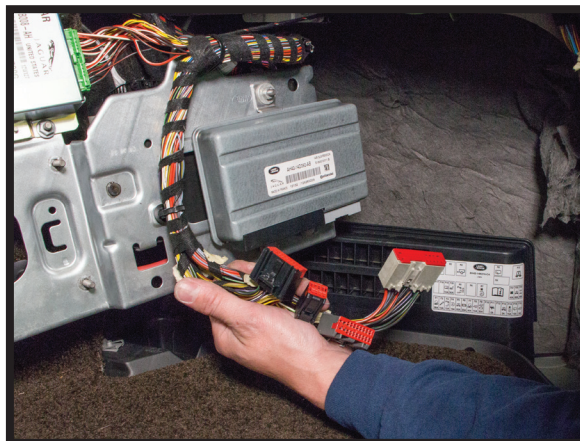

FIGURE 72
4. DISCONNECT THE AIR SUSPENSION CONTROL MODULE. (FIGURE 72)